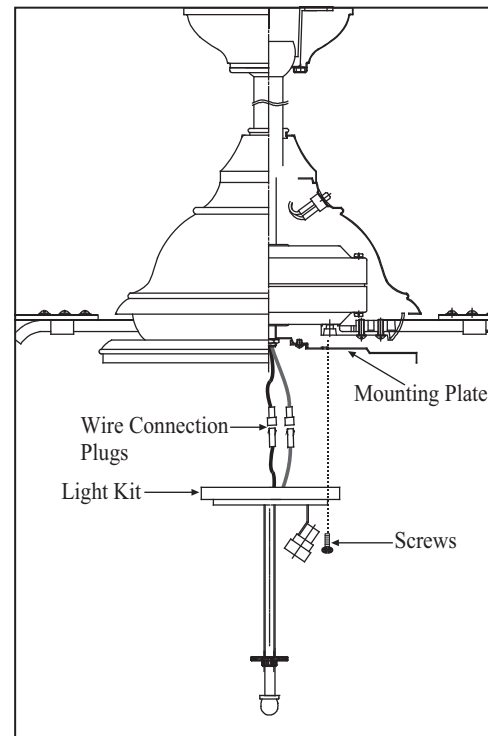

Figure 19
2. While holding the light kit assembly under your fan, make the polarized plug connections: (Figure 19)
3. Place the key holes on the light kit over the 2 screws previously loosened from the mounting plate, turn light kit until it locks in place at the narrow section of the key holes. Secure by tightening the 2 screws previously loosened and the one previously removed. (Fig. 19)